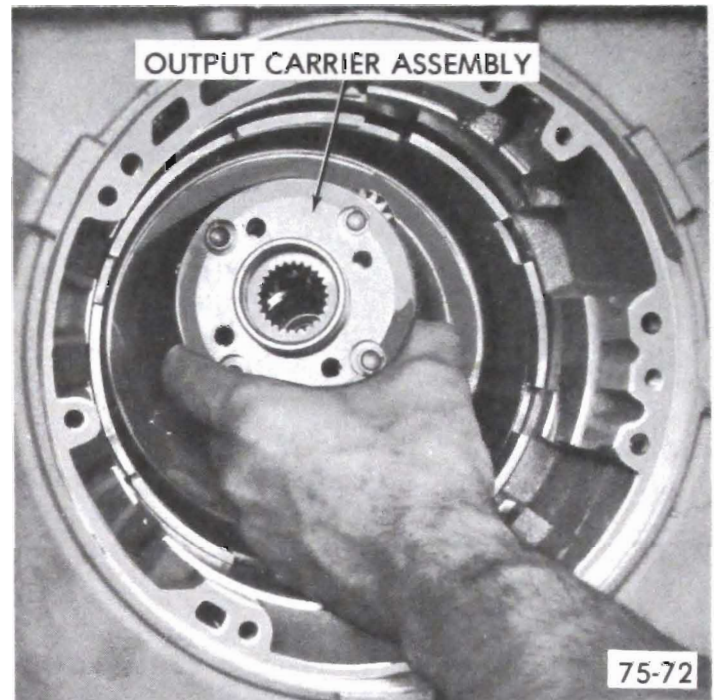

Figure 75-237
1. Install output carrier assembly. See Figure 75-237.